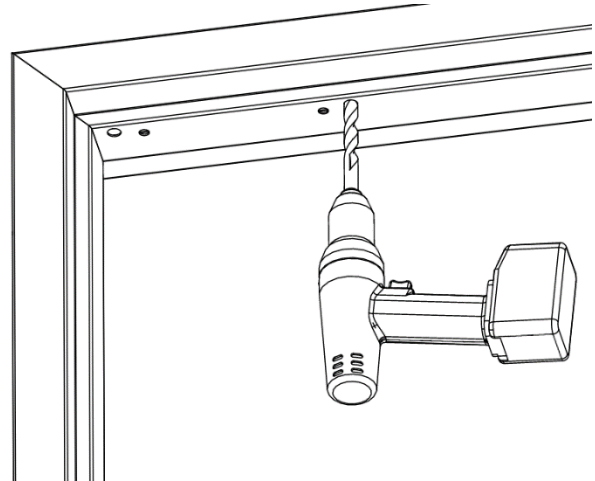

Figure 19. Drilling the Wire Access Holes
2. DRILL wire access holes (1/2" diameter recommended), as needed, on one or both sides of the bracket (see Figure 19, "Drilling the Wire Access Holes").